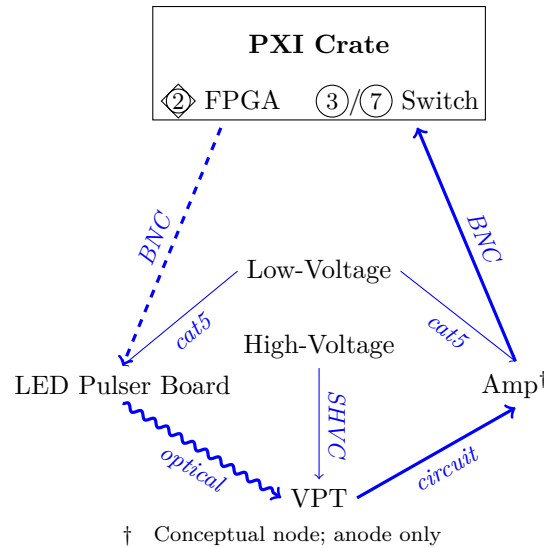

Figure 2: Rig Connections
Figure 2 is a conceptual view of the conduits between the components of the rig. The “Amp” branch is a simplification. Only the VPT anode connects to the amp, which then connects to the ⑦ **Switch**. The VPT cathode bypasses the amp and connects to the ③ **Switch**. The PIN diode (§2.3.2 **VPT Branch**), part of the VPT node here, also bypasses the Amp to connect to the ⑦ **Switch**.